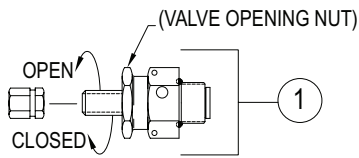

FIGURE 1
1. Point dampener charging valve in a safe direction and slowly open charging valve by turning valve opening nut **counter clockwise** to verify dampener is not pressurized (see FIGURE 1).
3. Close the valve on Nitrogen source and thread charging valve hose connection securely on to dampener charging valve. Make sure dampener charging valve is open completely by turning valve opening nut (see FIGURE 1) **counter clockwise** as far as it will go.